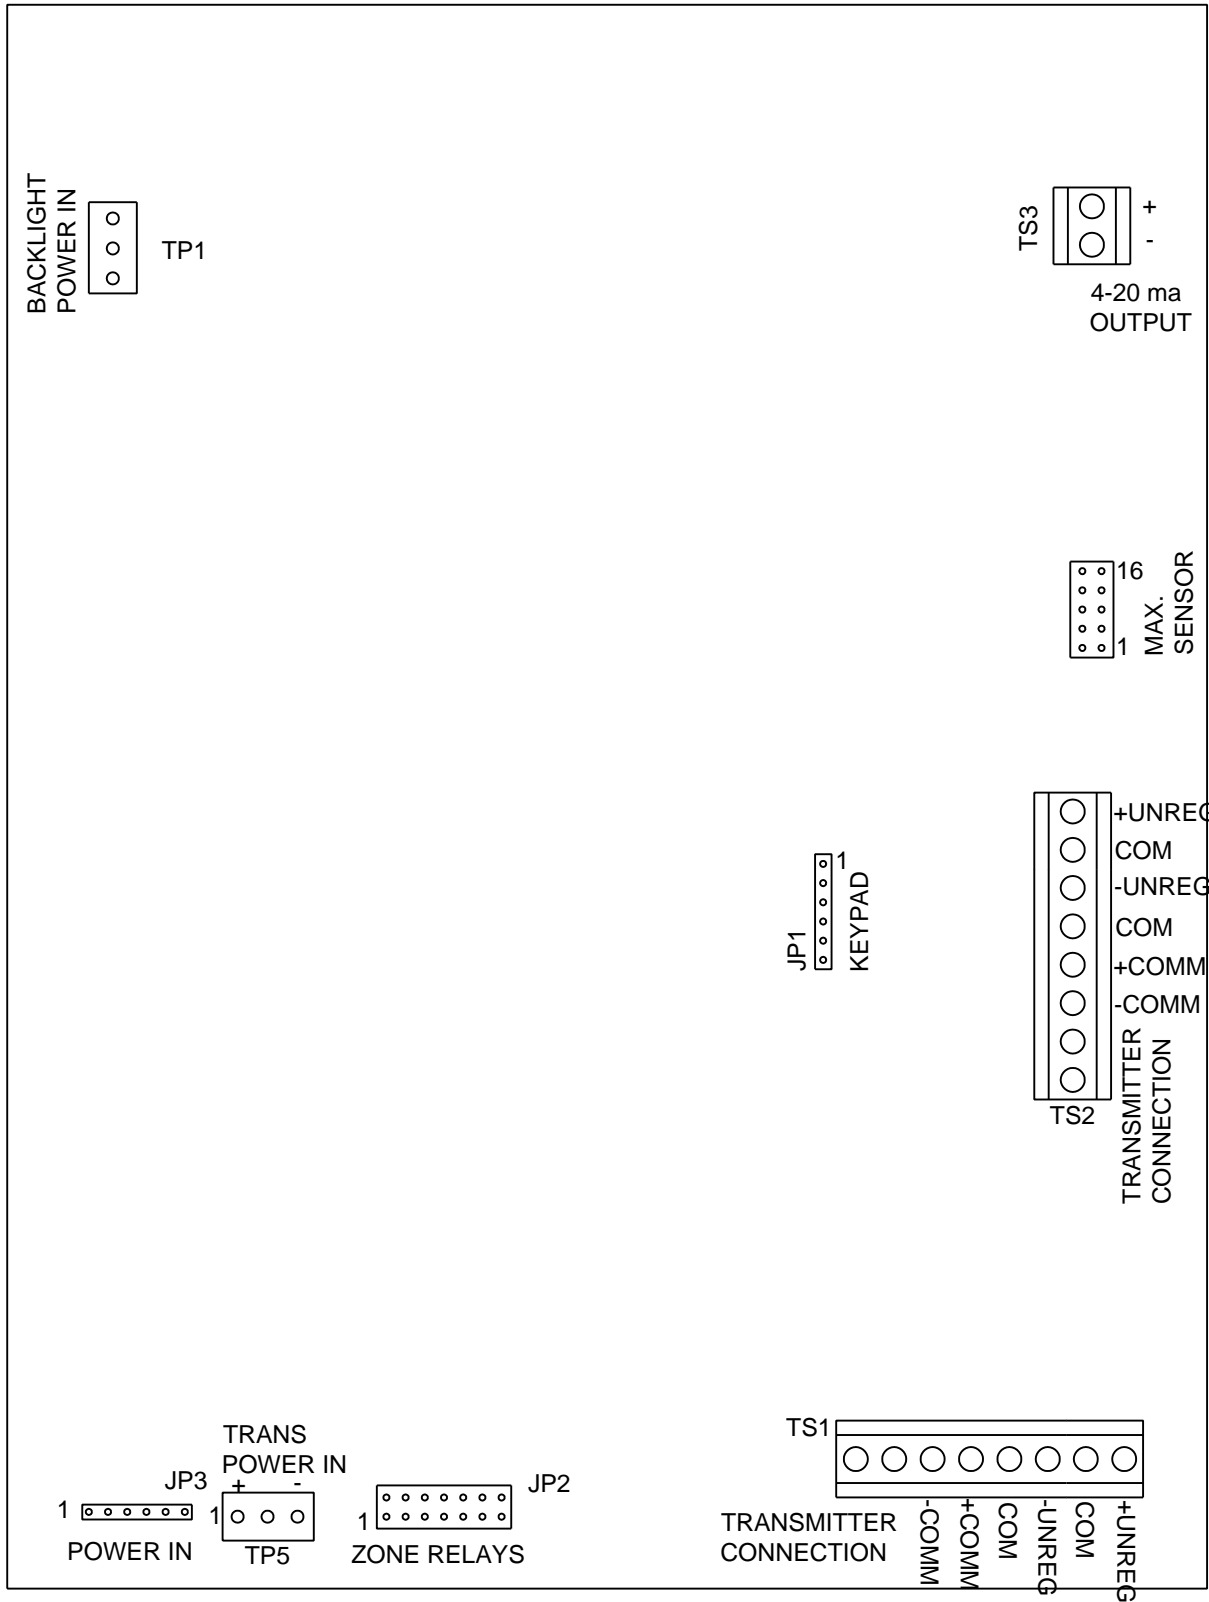

FIG 5: GDCP-A digital logic board component layout.
**The transmitters can be connected in a parallel fashion. This connection scheme is sometimes referred to as a daisy chain connection. The farthest transmitter should be at, or less than, 1000 feet from the panel. The panel contains two terminal strips for connecting the transmitter cable. As many as four cables can be connected at the control panel. Fig. 5, page 15, shows the location of these terminal strips. The function of each terminal point is written directly next to each point. Table 2-5.2, on page 16, explains the function of each terminal point on these strips.**
**See FIG. 5, page 15, for the location of these terminal strips.**